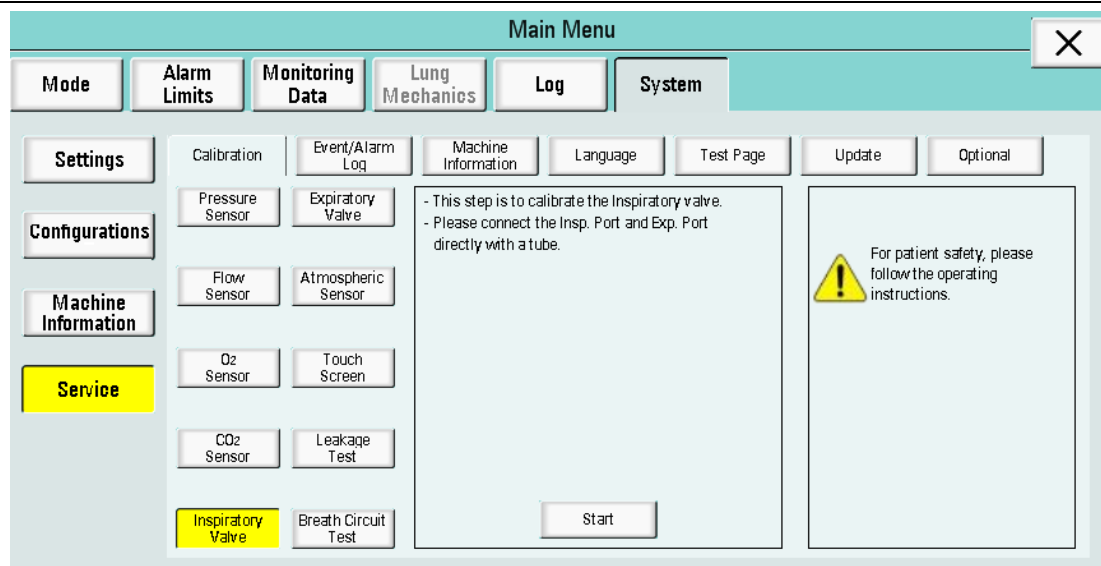

Figure 6-64
(5) Inspiratory Valve Calibration: Click “Inspiratory Valve” to enter the interface. A message displayed: “This step is to calibrate the inspiratory valve. Please connect the Insp. Port and Exp. Port directly with a tube”, as shown in Figure 6-64.